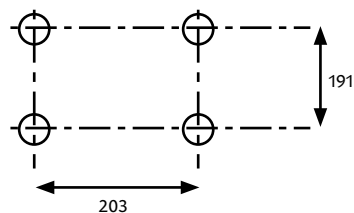

Fig.4
1. Mark the fixing positions of the wall plugs that will be used to secure your extractor to the ceiling, as shown in fig. 4
3. Fit the vent adaptor (G) to the body of the extractor, using the 2 self-tapping screws.